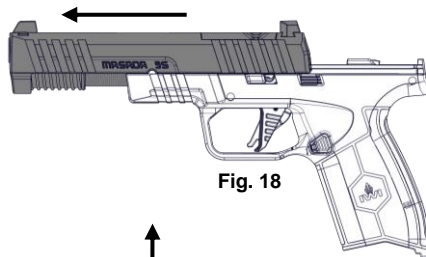

Fig. 18
5. Slowly pull the slide forward from the frame – There is no need to pull the trigger to release it. (Fig. 18).